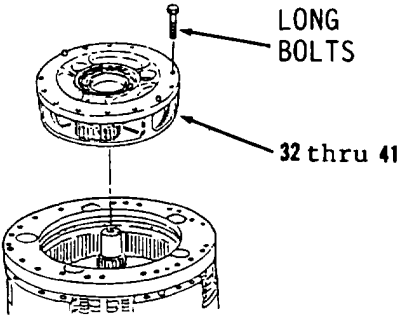
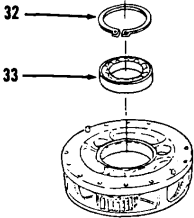

Figure 14-48.
Figure 14-49.
- 16. Insert two long bolts into carrier to aid in removal of items 32 thru 41 as an assembly (Figure 14-48).
- 17. Remove items 32 thru 41 as an assembly and remove two long bolts.
- 18. Remove snap ring (32, Figure 14-49).
- 19. Using suitable bearing puller, remove bearing (33).